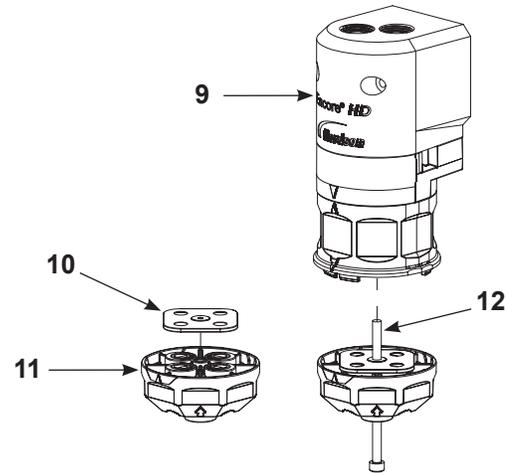

Figure 23 Assemble Gasket and Lower Y Block
NOTE: Any time the pump is disassembled, the Y block gasket (item 10 in Figure 23) must be replaced.
3. See Figure 23. Assemble gasket (10) over lower Y block (11), then thread long screw (12) through the lower y block and into the pinch valve housing, upper Y block and purge manifold. Torque screw to 25-30 in.-lb (2.8-3.4 N•m).